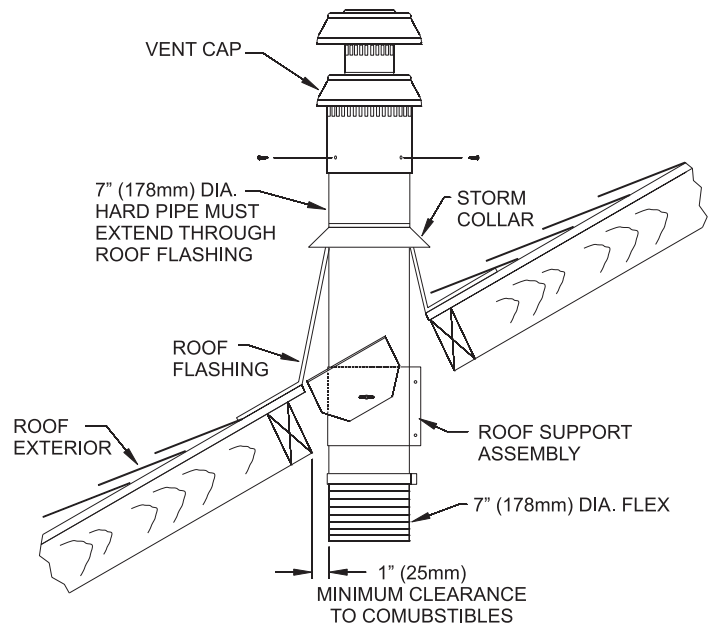

Figure 65
19. Once the lower connections are made and the flex pipe is secured with support bands as required (3 feet minimum between supports) then the roof flashing can be installed. **See Figure 65.**
23. **Figure 65** shows a completed installation with components identified and other installation information such as heights and clearance to combustibles.